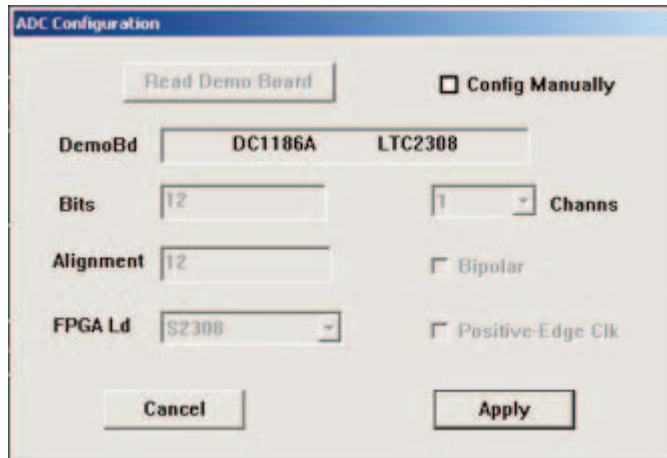

Figure 3. User Configure Menu
- Select Configure Manually, 12-Bits, Alignment 12, S2308, 1-Channel and do not check Positive_Edge Clk. Check Bipolar if the JP5 UNI jumper is set to GND. An example of the user configure menu is shown in Figure 3.